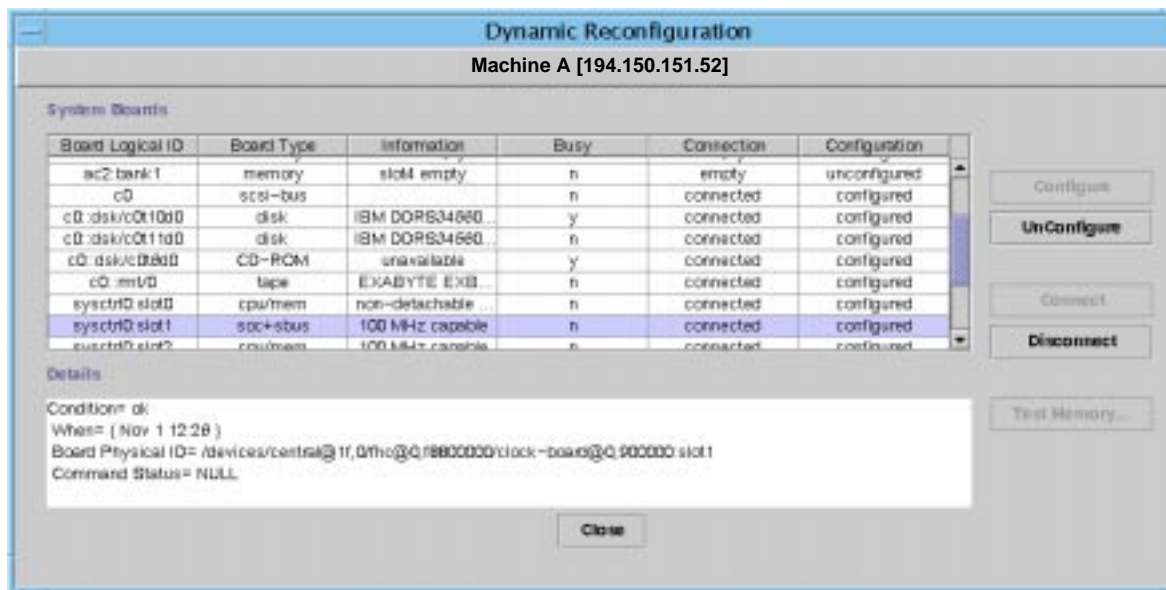

FIGURE 5 Dynamic Reconfiguration Window
2. Click the Dynamic Reconfiguration button to see the Dynamic Reconfiguration window (FIGURE 5).